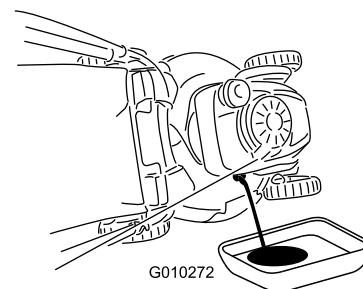

Figure 45
4. Tip the machine onto its side (so that the air filter is up) to drain the used oil from the oil-fill tube (Figure 45).